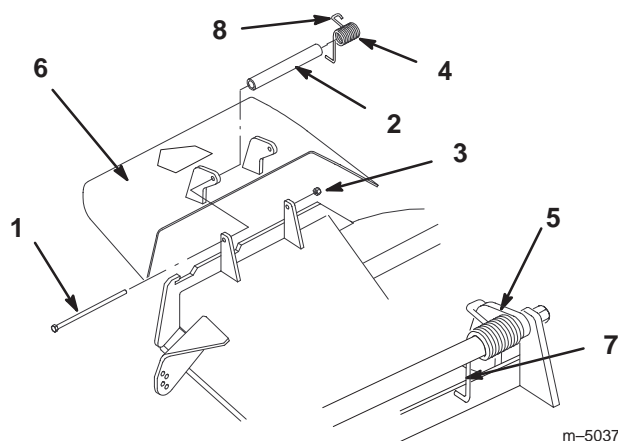

Figure 31
- Remove the locknut, bolt, spring and spacer holding the deflector to the pivot brackets (Fig. 31). Remove damaged or worn grass deflector.
- Place spacer and spring onto grass deflector. Place the **L** end of spring behind deck edge (Fig. 31).
Note: Make sure the **L** end of spring is installed behind deck edge before installing the bolt as shown in figure 31.
- Install bolt and nut. Place **J** hook end of spring around grass deflector (Fig. 31).